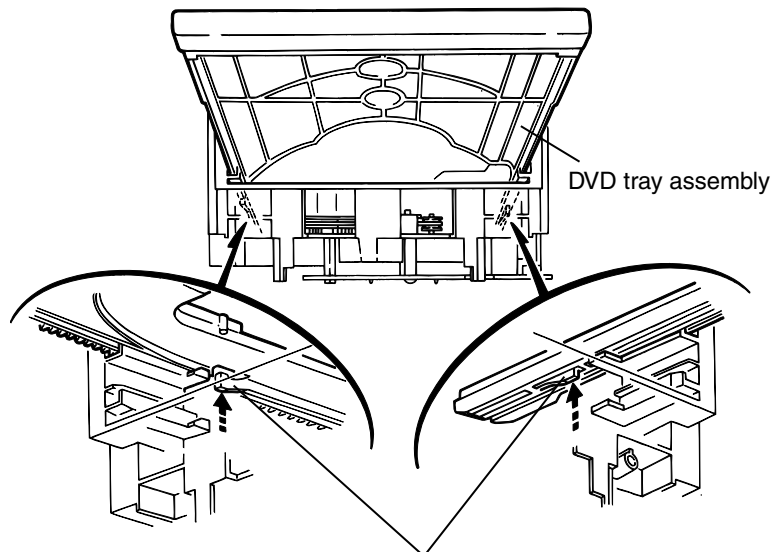

Fig.9 Pawl g, g'
12. At the position where the DVD tray assembly has stopped, pull out the DVD tray assembly while pressing the two pawls **g** and **g'** on the back side of DVD tray assembly(See Fig.9). In this case, it is easy to pull out the assembly when it is pulled out first from the stage DVD tray assembly.